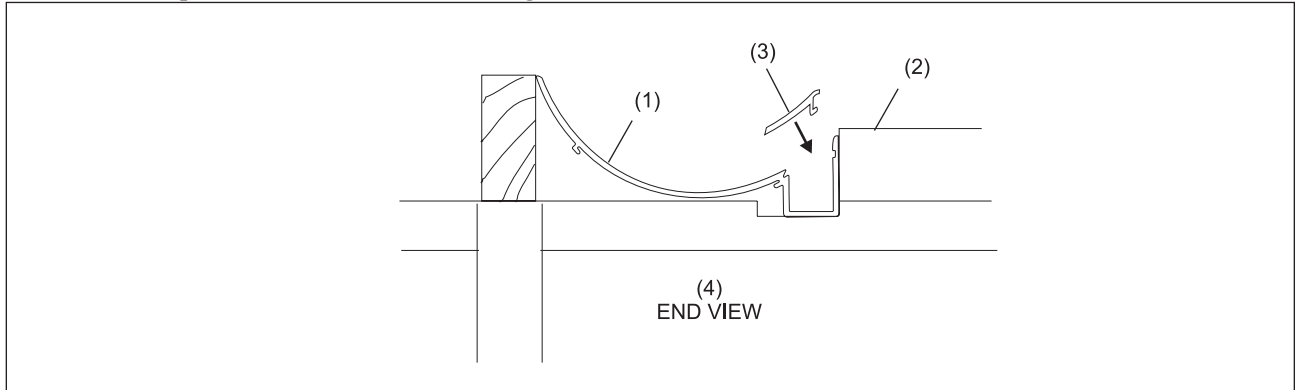

Figure 20. Install Cosmetic Covers
4. Using screws or nails, assemble two boards together as shown in *Figure 20*.
1. Snap the cosmetic cover (118" length, P/N 84-200467-xxx) into place along the lane edge. Each side of lane requires four covers. Refer to *Figure 20*.